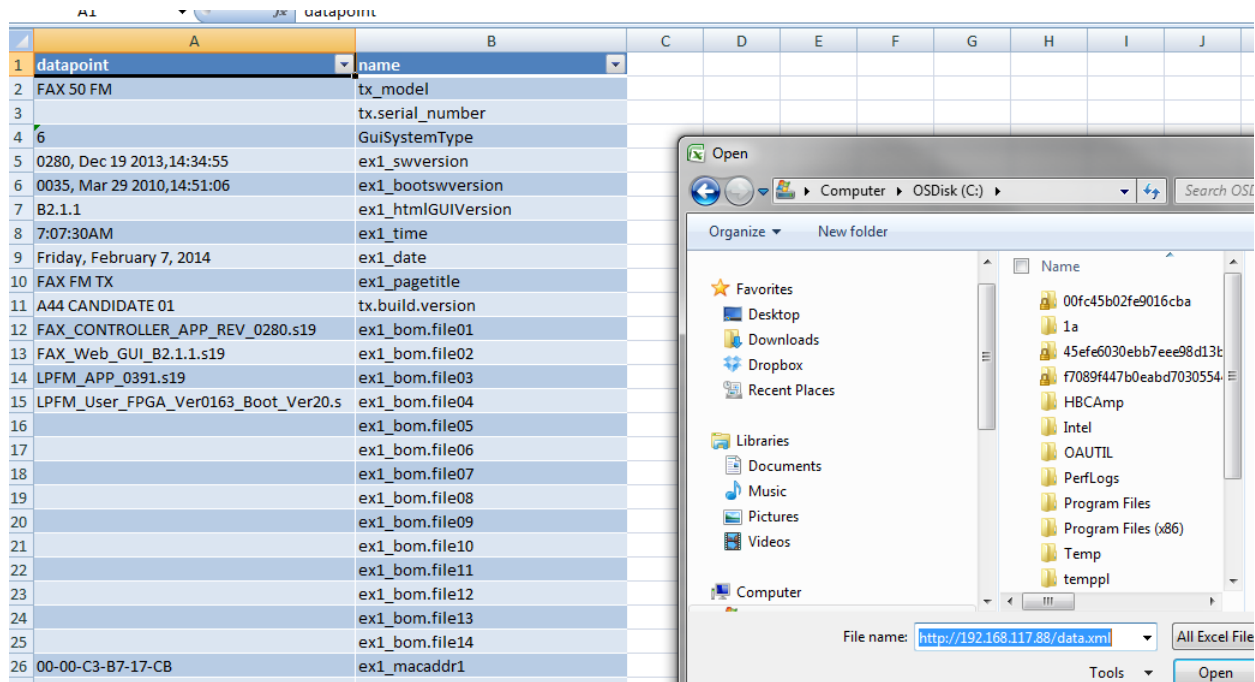

Figure 6-4 Data Point Download
- STEP 3 On the File menu click Open and in the filename box type the following, "http://xxx.xxx.xxx.xxx/data.xml". Insert IP address for x's, see Figure 6-4.
- STEP 5 The data points should load into excel and look like the left column in Figure 6-4. The right hand is the data and the left column will be the name of the data points.